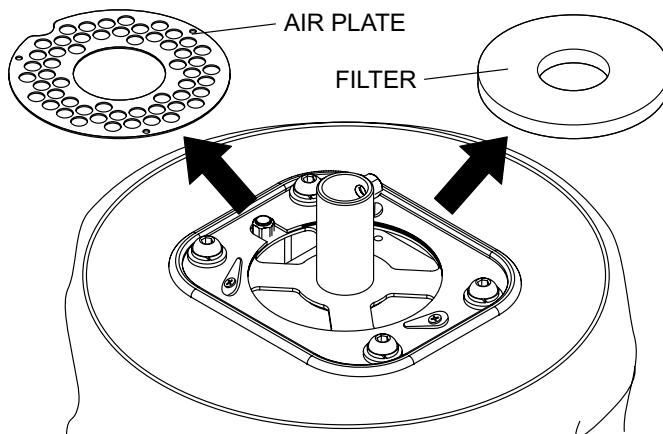

Figure 31. Filter Removal
4. Remove the air plate and filter. See Figure 31.